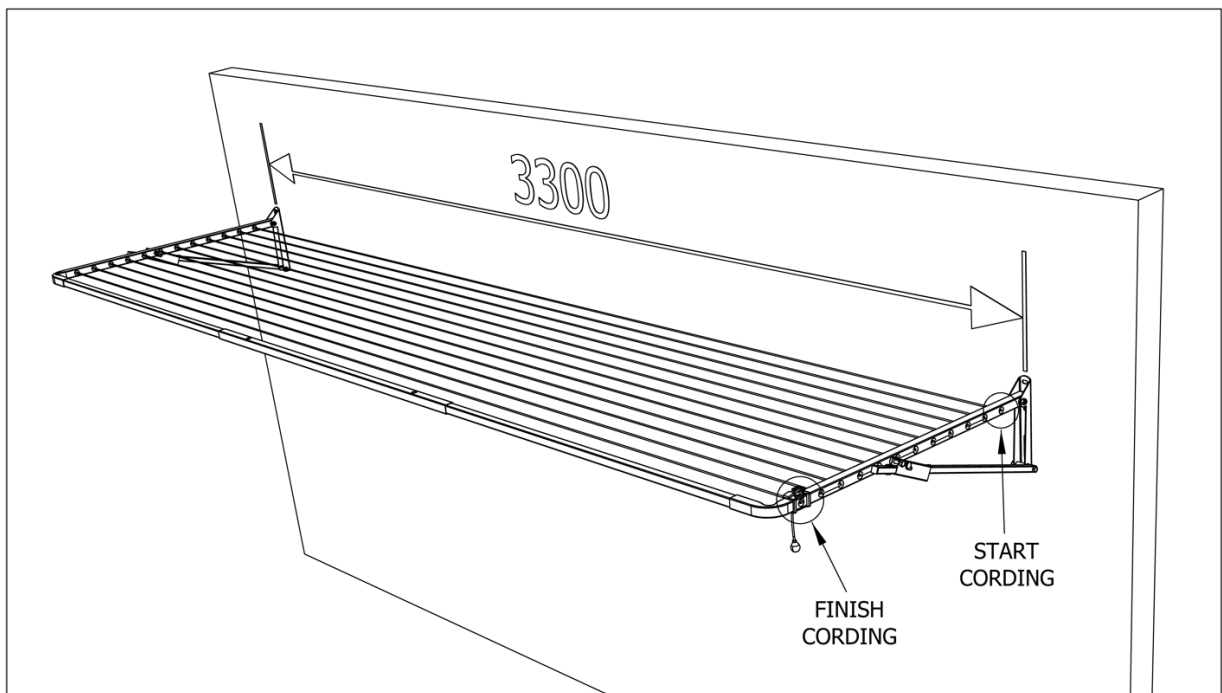

Fig 1. Compact 39 installed to wall / Cord start stop positions.
7. Start cording at the rear right-hand hole, tie a knot in the cord to stop it pulling through. (Fig.1)
8. Working across and toward the front of the clothesline, finish at the Line Tension Lock (L.T.L.) front right. (Fig.1)